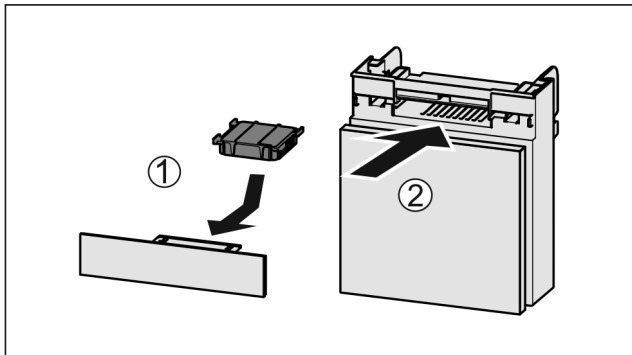

Fig. 156
- ▶ Insert the carbon filter as shown in the diagram Fig. 156 (1).
- ▶ Push the compartment in Fig. 156 (2).